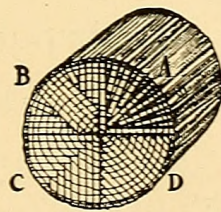

FIG. 66.
**Quarter Sawing** is necessary (Fig. 66). The log is first sawed into quarters, then each quarter is sawed up radially so the surface of each board will be parallel with the medullary rays. Strictly speaking, the quarter marked *A* shows the only proper method of quarter sawing, as it is the only one in which each board is parallel with the rays, but methods *B*, *C*, and *D* are also used, as they save considerable waste of material, and boards so cut are sorted into different grades. The big waste, and the fact that more time is required in the cutting, make quarter-sawed stock much more expensive than plain-sawed stuff. The irregular pieces cut from between the boards are usually utilized for moldings and other small pieces, and this reduces the amount of waste somewhat. Besides the beautiful markings, quarter-sawed boards